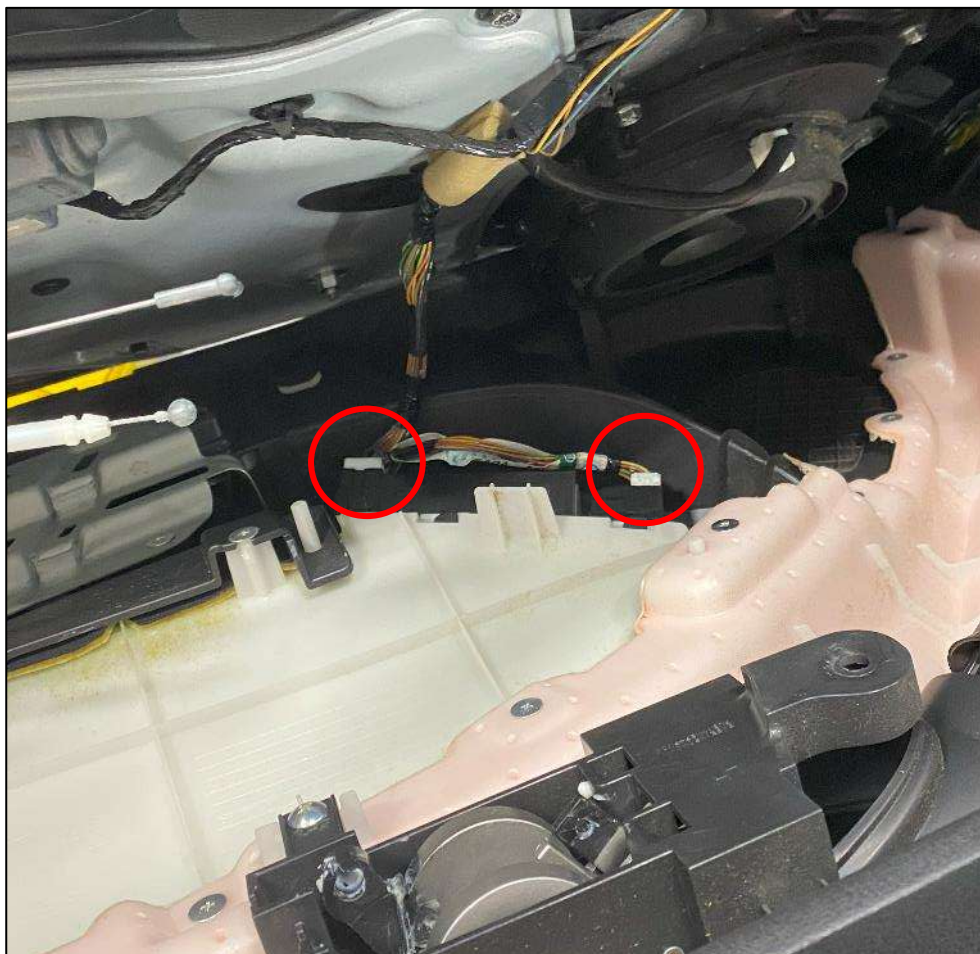

Figure 40
9. Disconnect the (2) two Door Panel Control connectors at the bottom of the Door Panel. *Figure 40.*